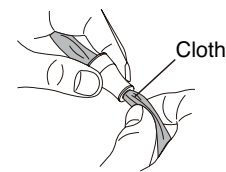

Fig.5-6 Cleaning the area (brush is unable to reach)
- Wipe off by a cloth for the area which brush is unable to reach. (Fig.5-6)